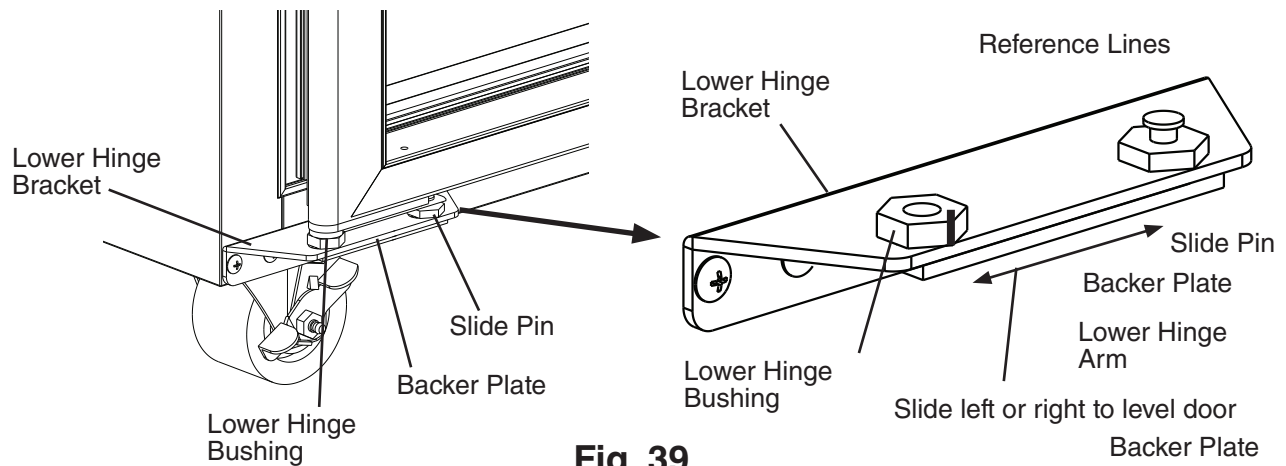

Fig. 39
- 20) Level the door by sliding the backer plate to the left or to the right, then tighten the slide pin and bottom hinge bushing with a wrench until it is tight. See Fig. 39. Next, mark a reference line on the bracket and bushing then tighten the fitting an additional 1/8 turn.